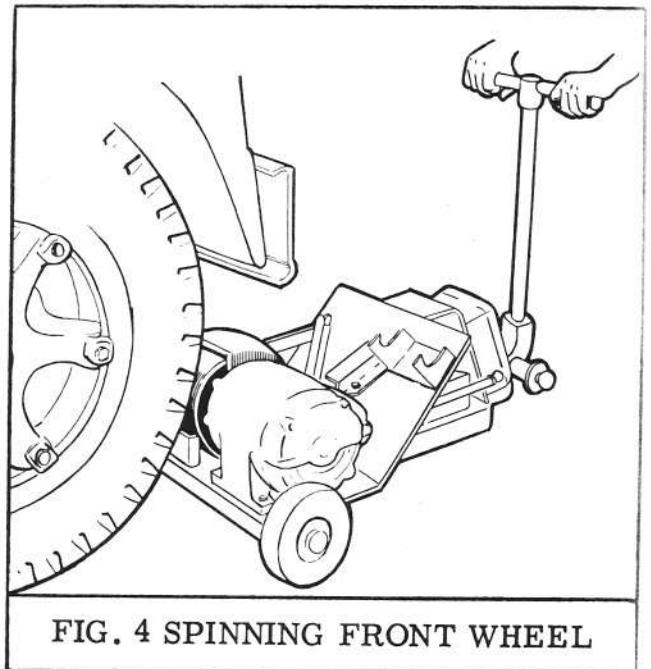

FIG. 4 SPINNING FRONT WHEEL
10. Push balancer toward wheel so spinner contacts tire tread squarely. Push balancer with enough pressure to spin wheel. See Figure 4.